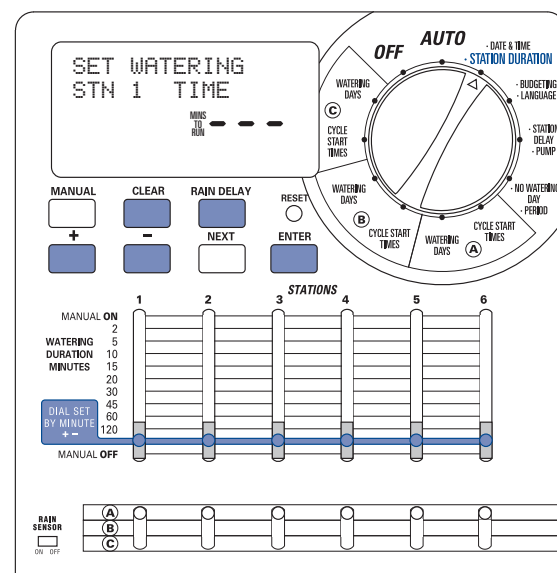

Figure 11: "Dial Set by Minute"
- Slide the **Watering Duration Slide Switch** to the **DIAL SET BY MINUTE** position (indicated by the solid white bar) for each station. [See Figure 11]